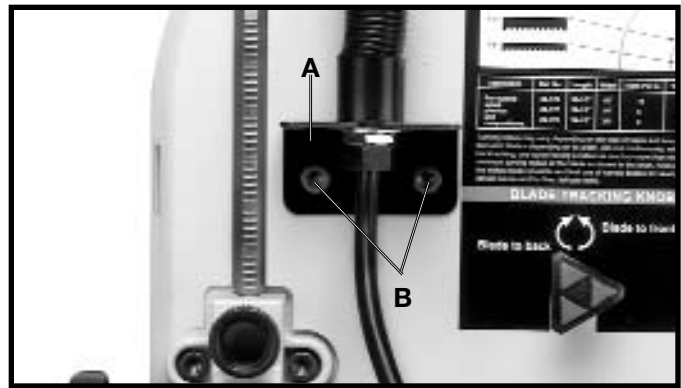

Fig. 13
1. Fasten the lamp bracket (A) Fig. 13, to the top cover of the machine, using two M6x1x12mm cap head screws (B) and 1/4" lockwashers as shown.